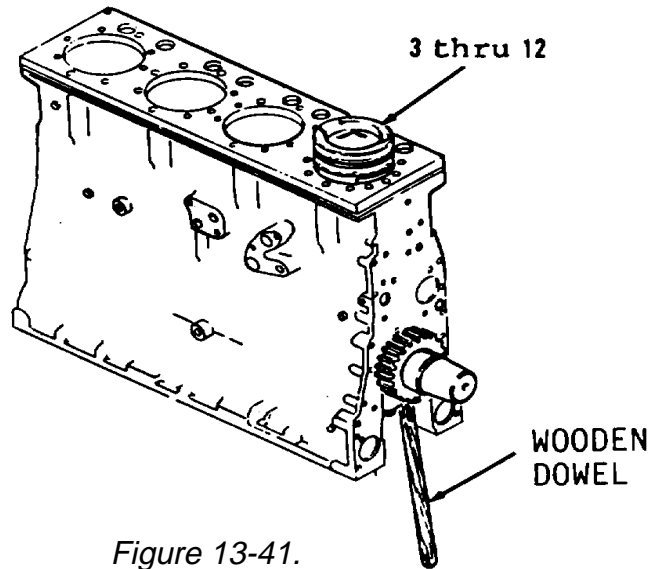
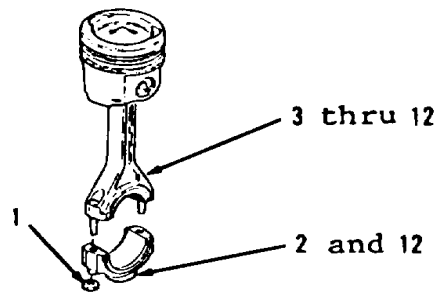

Figure 13-41.
Figure 13-42.
6. Using a wooden dowel to prevent damage to liner, push up items 3 thru 12 as an assembly (Figure 13-41).
7. Remove items 3 thru 12 as an assembly through top of cylinder block.
8. Install items 2 and 12 as an assembly and two nuts (1) on items 3 thru 12 as an assembly (Figure 13-42) to prevent possible mismatching during installation.